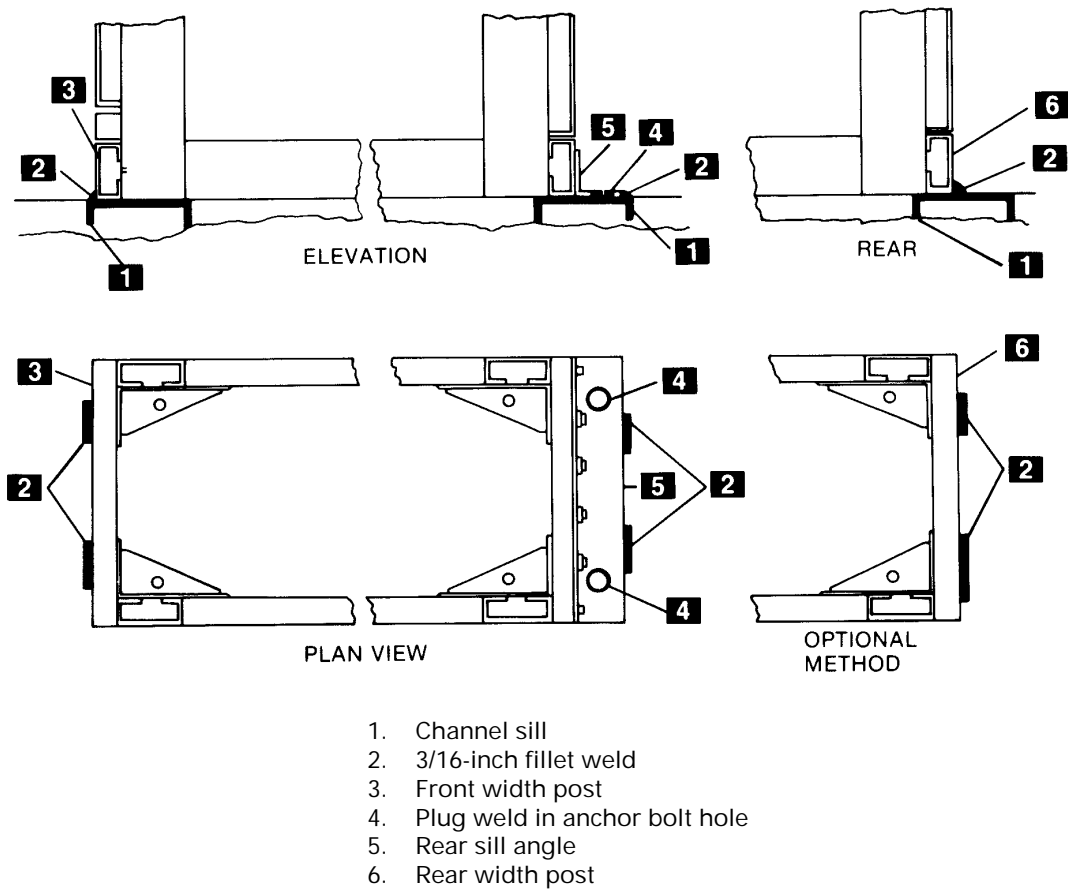

Fig. 4-15. Equipment weld anchoring
- 2. ANCHORING BY WELD** - An alternate method of anchoring the equipment to its foundation is to weld the equipment to floor sills (or the floor itself if constructed of steel). Several methods, shown on Fig. 4-15, are available to the purchaser for welding the equipment to the channel sills.
- a.** *The front of the equipment* is attached to the embedded channel sills (1), Fig. 4-15, by two 3/16-inch fillet welds (2). It is recommended that two welds, each 2-1/2 inches long (min.), be used for each section to firmly tie the bottom width post (3) to the channel sill.
- The first method is by plug welds (4), Fig. 4-15, using the anchor bolt holes in the rear sill angle (5). The plug weld should receive a minimum 1/2-inch bead around the entire circumference of the anchor bolt hole.
- A second method of securing the rear sill angle (5) to the channel sill (1) is the use of two linear fillet welds (2) for each section. It is recommended that each weld be 2-1/2 inches long (min.) with a 3/16-inch fillet (min.).
- A third method for anchoring the rear of the equipment is to remove the rear sill angle (5) from the switchgear and weld the rear bottom width post (6) to the channel sill (1). These welds (2) should, like the front welds, have a 3/16-inch (min.) fillet and each have a minimum length of 2-1/2 inches.